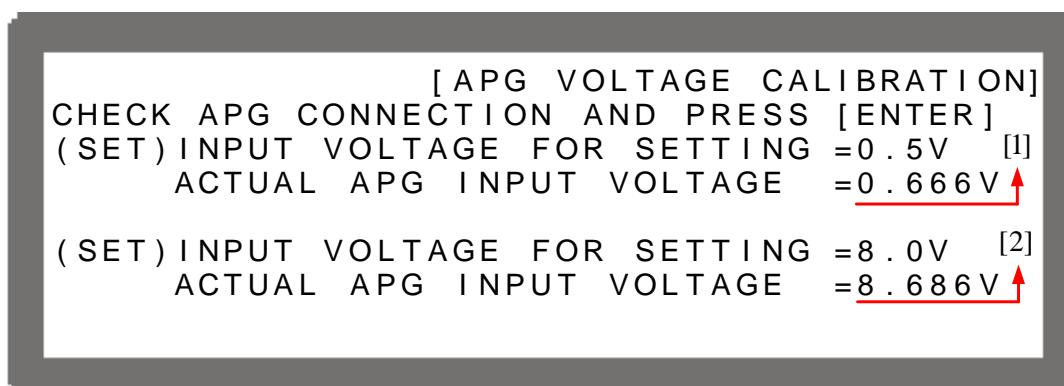

Figure 3-119
4. It will ask users to input about 0.5V voltage signal (Pin 3). The cursor stops at position [1] as Figure 3-119 shows after pressed " ENTER" in the above step. Adjust the Power Supply to $0.5V \pm 0.2V$ and use DVM1 to measure the reading of Power Supply. Input the voltage (3 digits after decimal point) read by DVM 1 to position [1] and press " ENTER" to confirm.
5. Press "" again will ask users to input about 8.0V voltage signal (Pin 3). The cursor stops at position [2] as Figure 3-119 shows after pressed " ENTER". Adjust the Power Supply to $8V \pm 0.2V$ and use DVM1 to measure the reading of Power Supply. Input the voltage (3 digits after decimal point) read by DVM 1 to position [2] and press " ENTER" to confirm.